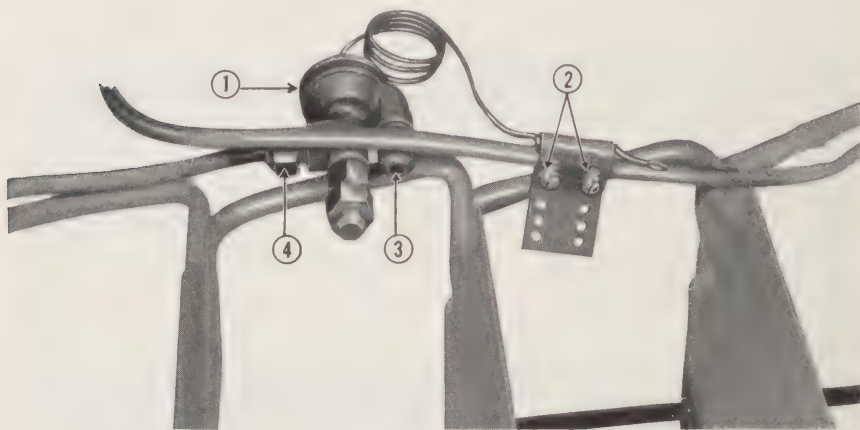

Figure 36. Thermostatic expansion valve installed.
- (1) Remove the bottle racks and shelves from the evaporator.
- (2) Install the gages. (See par 38.)
- (3) Pump down the system. (See par 41.)
- (4) Loosen the 2 screws on the thermostatic bulb clamp (fig 36, item 2) and remove bulb from clamp.
- (5) With a clean cloth wipe dry all fittings on the expansion valve.
- (6) Unscrew the suction and liquid line flare nuts (fig 36, items 3 and 4) and remove from the valve.
- (7) The expansion valve is now free from the cabinet.
- (1) Reconnect the suction and liquid line flare nuts (fig 36, items 3 and 4) to the expansion valve. Connections must be gas tight.
- (2) Secure the thermostatic bulb under the clamp at former location on the suction line between the center evaporator plates (fig 36) and tighten screws on clamp.
- (3) Purge the low side of the refrigeration system. (See par 43 b.)
- (4) Inspect to see that the suction service valve, discharge service valve and liquid receiver valve are back seated.
- (5) Test for leaks (See par 40.)